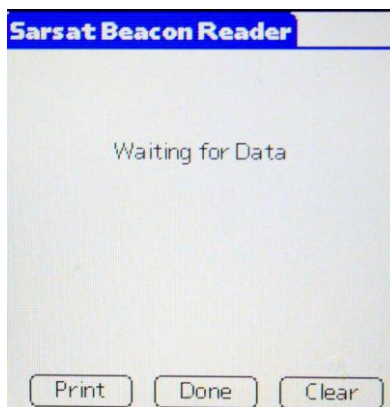

Figure 11: Waiting for Data Screen
4. The screen will display "Waiting for Data", as shown in Figure 11, until a valid ELT transmission is received.